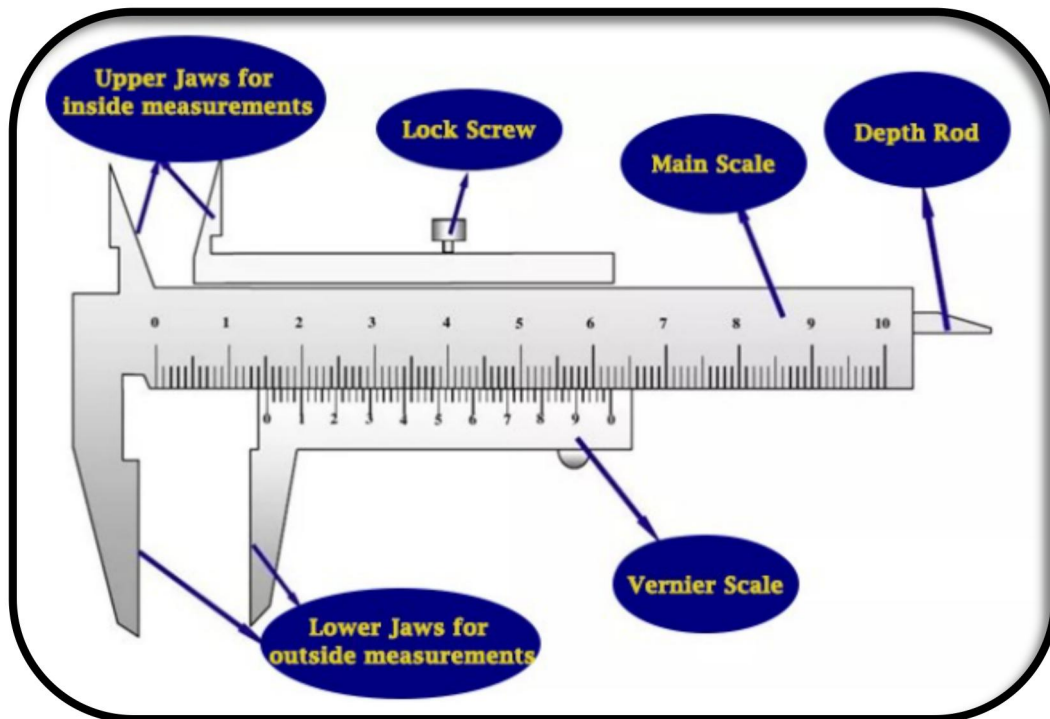

Figure 1.12 Parts of a vernier caliper
- **Figure 1.12** depicts parts of a vernier caliper and their functions which are as follows: